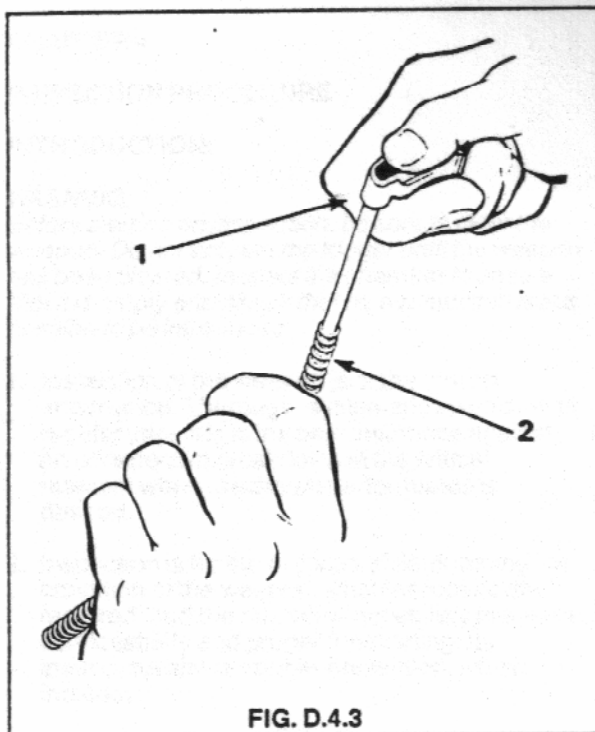

FIG. D.4.3
3. Release the compression on the return spring and remove the spring from the recoil body. Withdraw the guide rod through the headed end of the recoil body. See Fig. D.4.3.